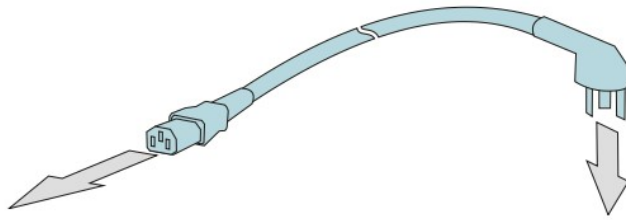

Figure 12: Connect the power supply
- Connect the power supply cable, refer to figure 12 below.